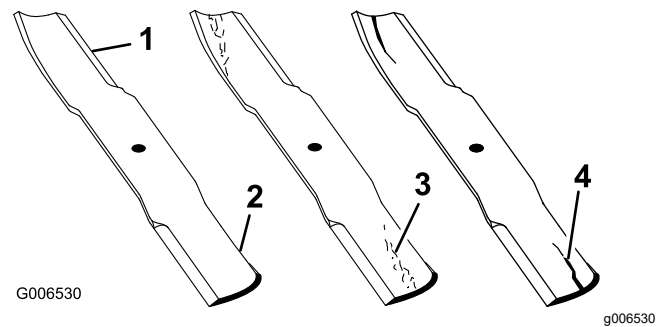

Figure 67
1. Inspect the cutting edges (Figure 67).
4. If you notice any cracks, wear, or a slot forming in this area, immediately install a new blade (Figure 67).